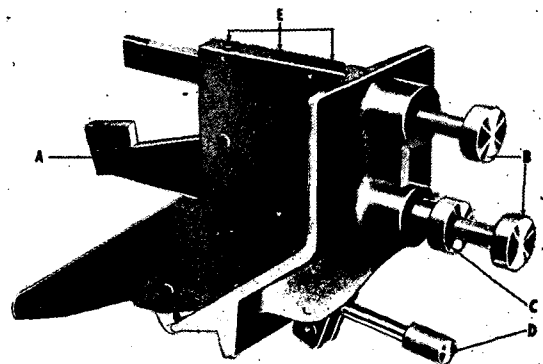

Figure 9—Steady Rest
#### 507—STEADY REST (Figure 9)
The purpose of the steady rest is to hold the crankshaft steady and to eliminate whipping and vibration while grinding. The steady rest is clamped to the front table with lever (D, Fig. 9). If the lever fails to clamp the steady rest securely, adjust the screw underneath the lever block. To engage lower jaw (A), push knob (C) fully in and turn to the right one-fourth turn. The screw knobs (B) are used to adjust the steady rest jaws.
The three screws (E, Fig. 9) are used to adjust the upper jaw gib. This gib should be kept snug against the upper jaw so that excessive play is eliminated. The screw lock nuts are used to lock the screws in position after adjusting.